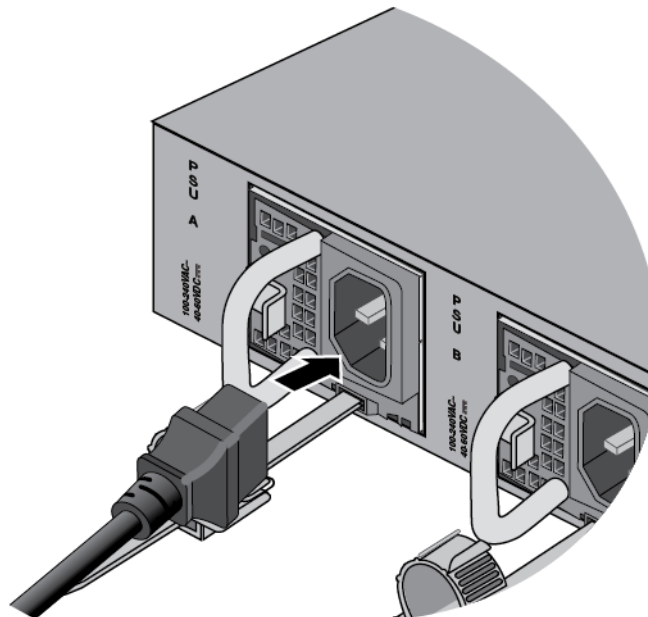

Figure 122. Connecting the AC Power Cord
1. Connect the AC power cord included with the power supply to the AC power connector on the rear panel of the chassis. If the switch has two power supplies, you only need to power on one of them to configure the switch. Refer to Figure 122.